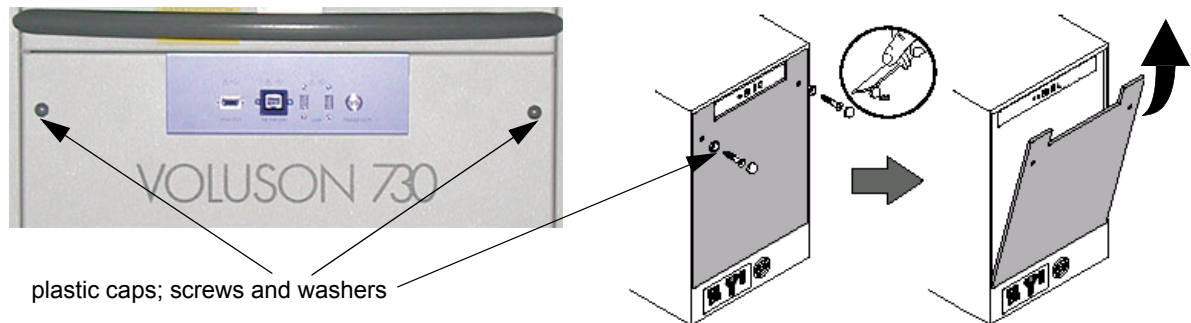

Figure 3-5 Remove rear cover plate
- 1.) Carefully remove plastic caps using a knife and loosen screws and washers (see Figure 3-5).